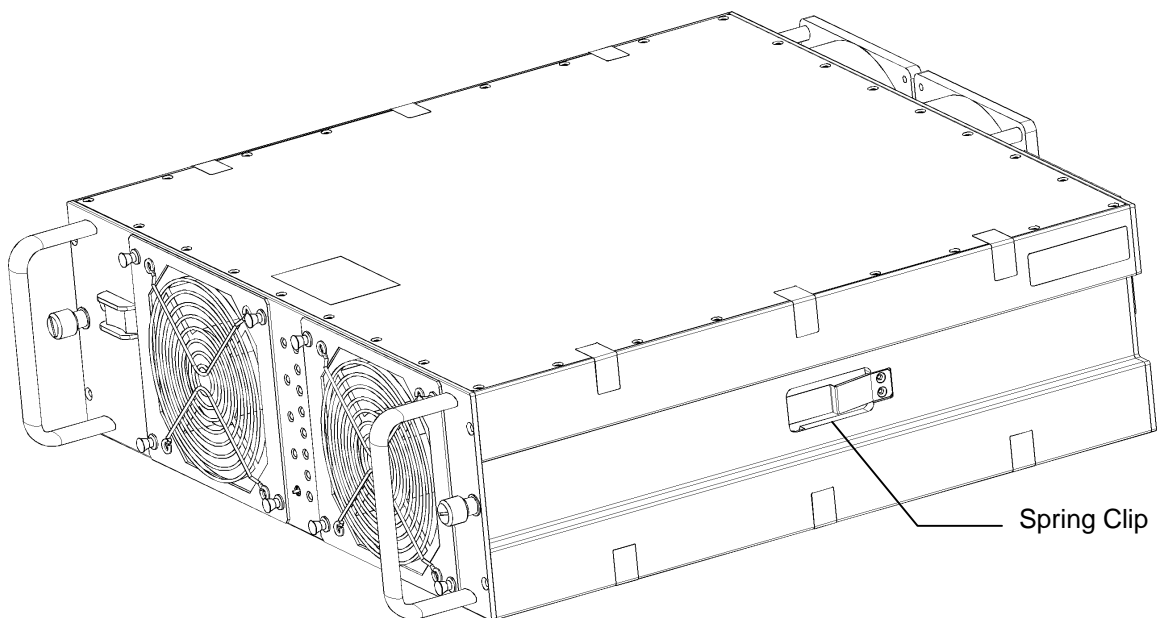

Figure 5-2 Amplifier Spring Clip Location
3. Use the handle on the front of the module, and with a steady even pressure, gently pull the module about half way out of subrack until the spring-clips prevent the amplifier from being removed (refer to figure 5-2).